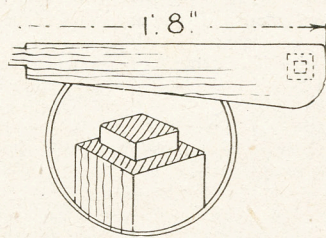
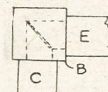
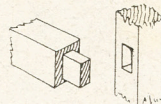

Fig. 3—Shape and joint of arm
Fig. 5—Plan of corner joint
Fig. 6—Mortise and tenon
The two front uprights (A) should first be set out, and these are 1ft. 11ins. long. This measurement allows for a stub tenon on the top to fit into the arm rests, see the enlarged detail in Fig. 3. The lower end of the upright is tenoned into the rocker or the ground rail, whichever method is adopted.
take the ends of the arm rests, the tenons of which are shown in the upper diagram in Fig. 3. Mortises will also be cut in all four uprights to take the cross rails (C), (D), (E), (F) and (G) and where rails (C) and (E) meet in the back upright, the ends of the tenons will be cut to an angle of 45 degrees, as seen in the detail Fig. 5. The other tenons will be plain and look like that shown in Fig. 6.
For the arm rests two pieces of ¾in. wood 20ins. long by 4ins. wide will be required. They will be shaped with the fretsaw to the outline given in Fig. 3, the